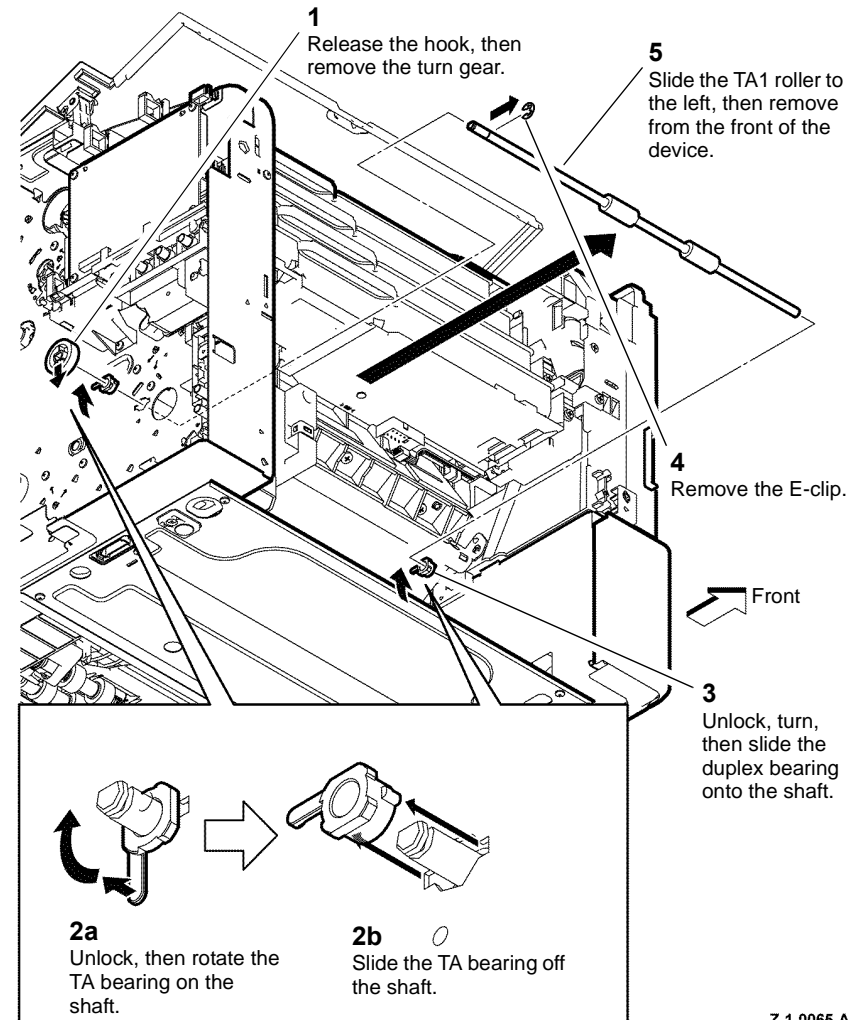

Figure 1 TA1 Roller assembly
2. Remove the TA1 roller assembly, Figure 1.